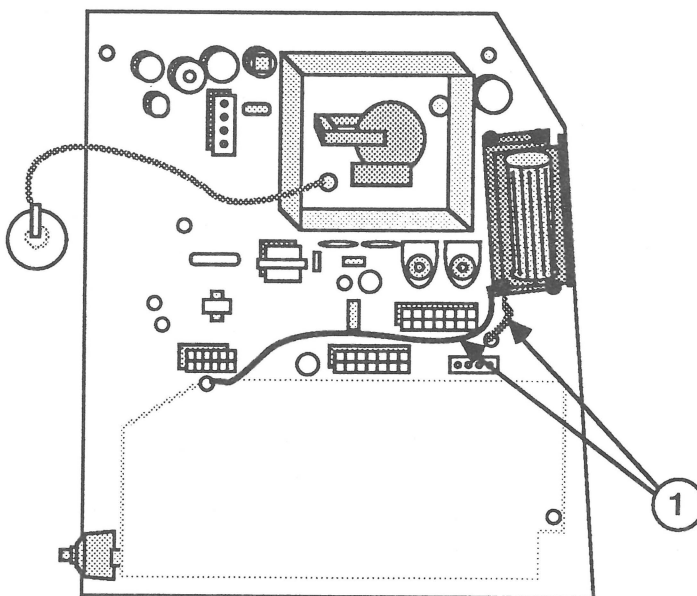
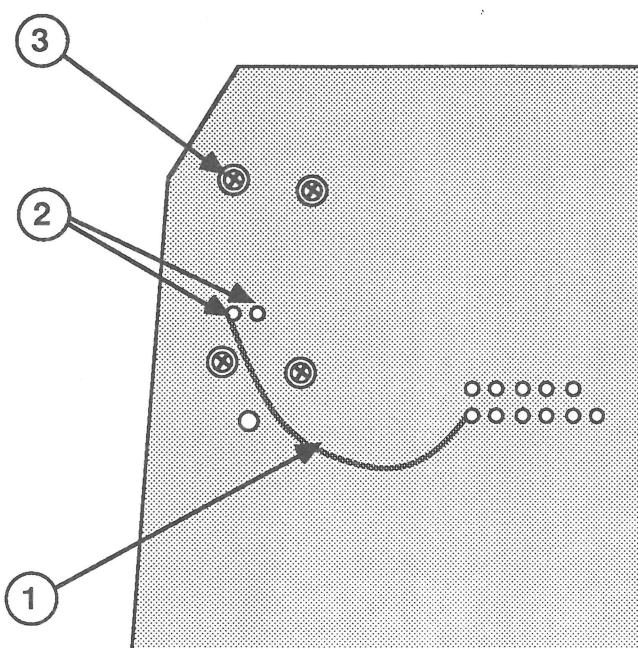

FIGURE 37
FIGURE 38
7. The electrical connection of the fan to the analog board has been achieved in several different ways. In most designs, one or two wires from the fan are soldered to the analog board. First check to see if any wires are present. They may be routed along the front (Figure 37, #1) or the back (Figure 38, #1) of the analog board.
8. Next, locate the two solder points (Figure 38, #2) on the back of the board that connect to the fan, and desolder if there is solder present.
9. Remove the four screws (one is shown at Figure 38, #3) that hold the fan assembly to the analog board and lift the fan off.